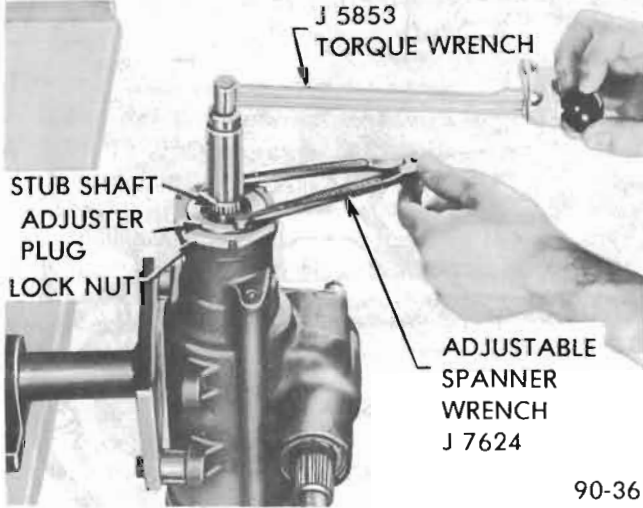

Figure 90-31 Adjusting Thrust Bearing Preload
7. Tighten adjuster plug until torque to turn stub shaft is 3 to 4 lb. in. greater than drag torque (with lock nut tightened). See Figure 90-31. Torque to turn stub shaft (drag plus thrust bearing) must not exceed 7 lb. in.